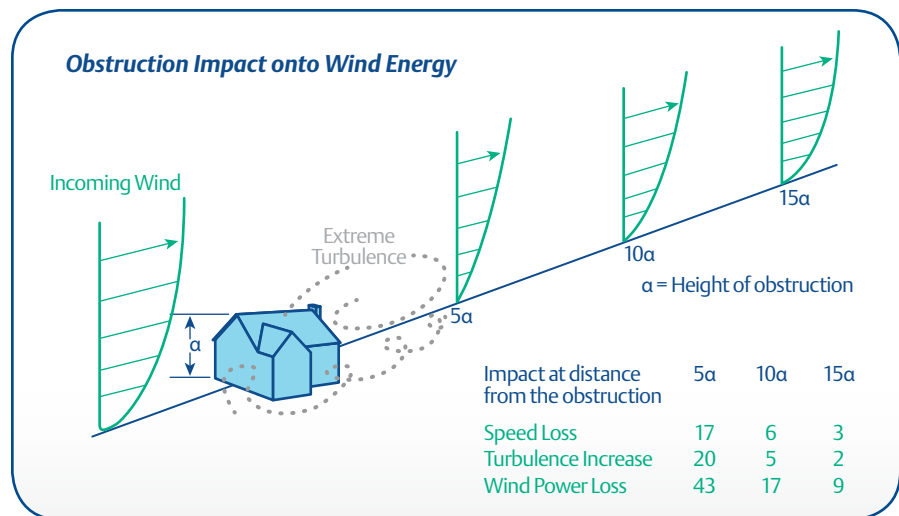

Figure 1. Obstruction Impact onto Wind Energy
**Obstruction Clearance:** The impact of obstructions depends upon many variables, but the following model [Figure 1], courtesy of the Department of Energy’s National Renewable Energy Laboratory (NREL), illustrates the substantive effect of obstructions. While acknowledging that obstructions may be unavoidable, a planner with a Wind Rose should give priority to sites that minimize any obstructions to the dominant incoming winds.